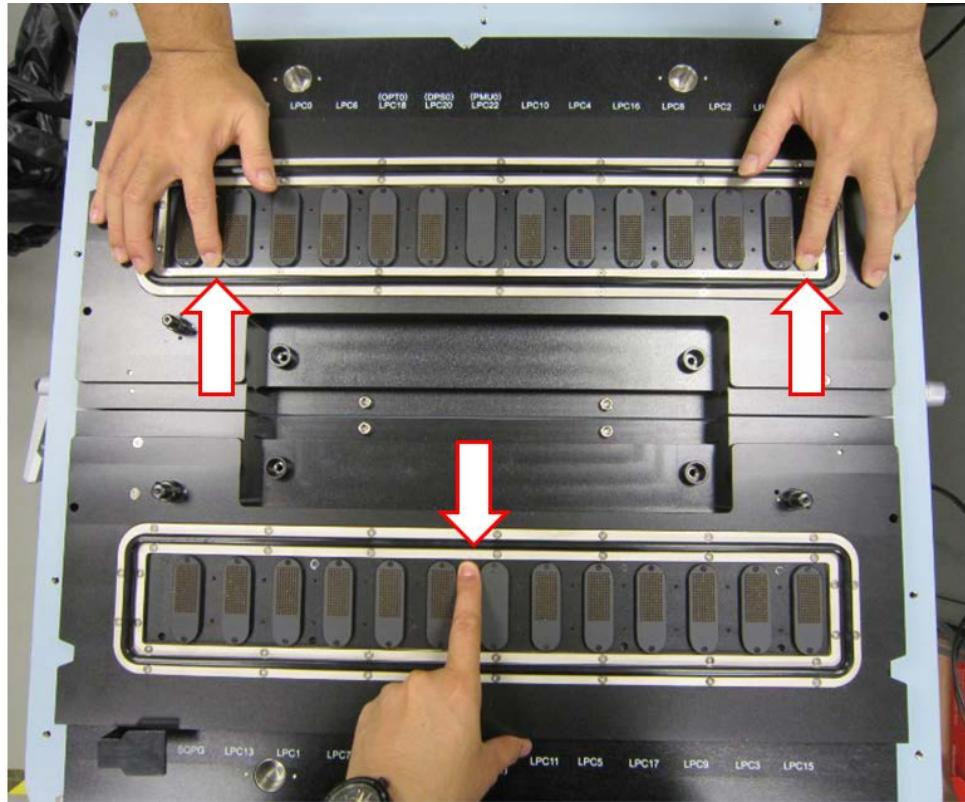

Figure 4-6 Plug vacuum absorbing hole with fingers
Step 1: Plug vacuum absorbing hole on positioning plate set-A and positioning plate set-B with fingers as *Figure 4-6* shows.